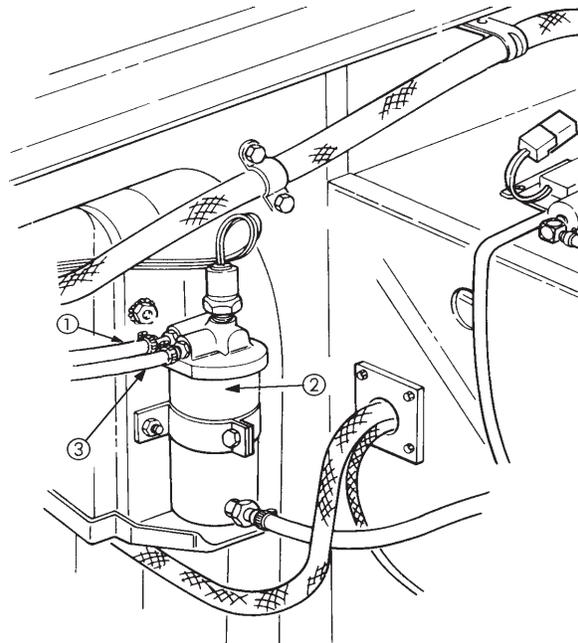

Figure 3-4. Fuel Filter Pressure Test Hook-up
T. FUEL FILTER PRESSURE TEST (Figure 3-4)
U. FUEL FILTER FLOW TEST (Figure 3-4)